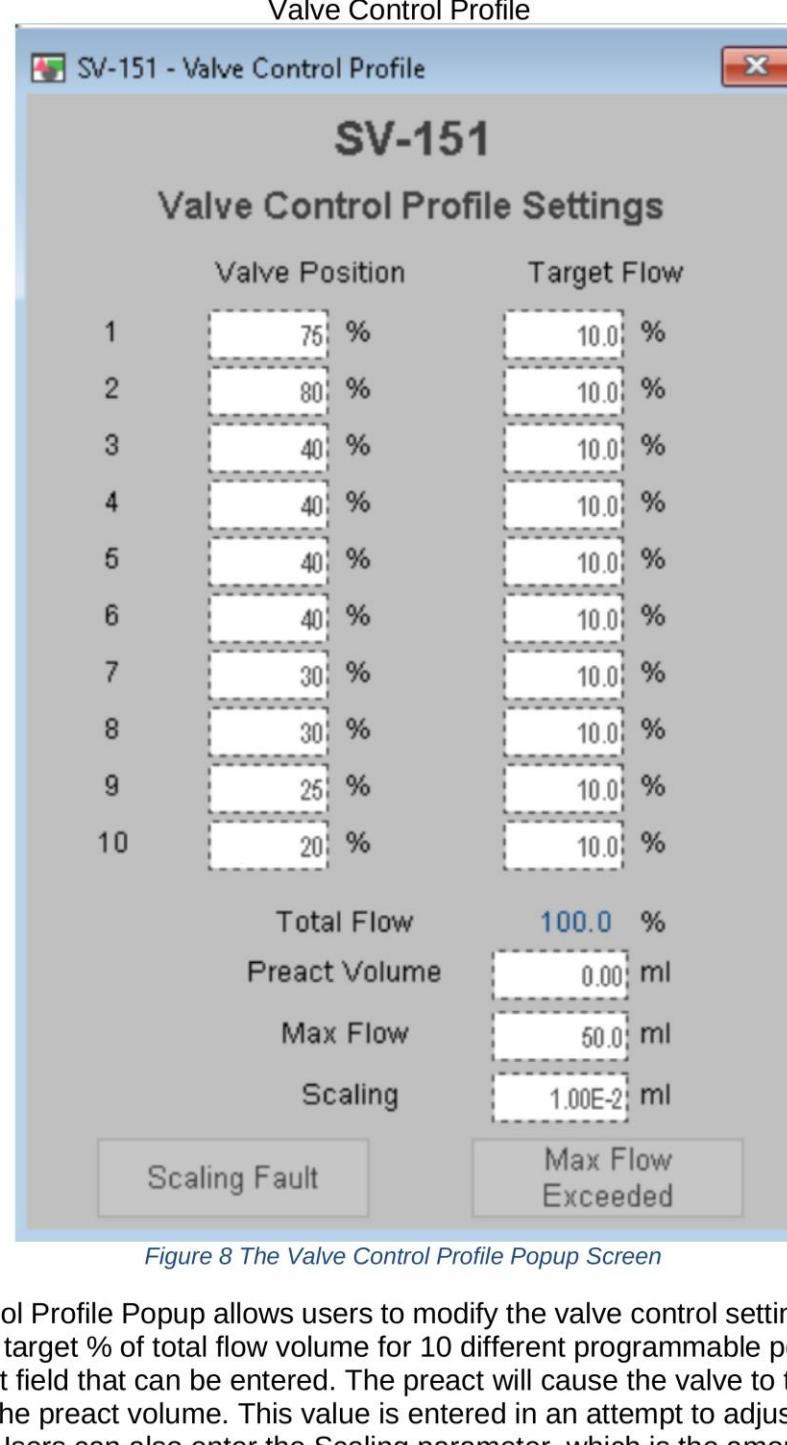

Figure 8 The Valve Control Profile Popup Screen
The image (Figure 8) shows a screenshot of a software interface titled "SV-151 - Valve Control Profile." The interface is designed for setting the valve control profile, which includes configuring the valve position and target flow for different steps.
- Figure 8 The Valve Control Profile Popup Screen